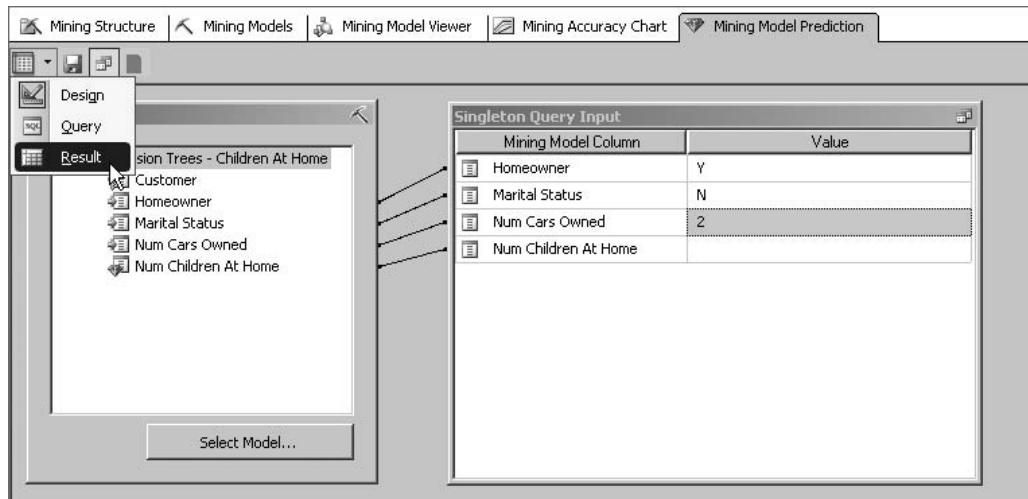

Figure 15-15 Selecting the result view
13. Select Result from the View drop-down list on the Mining Model Prediction tab toolbar, as shown in Figure 15-15.